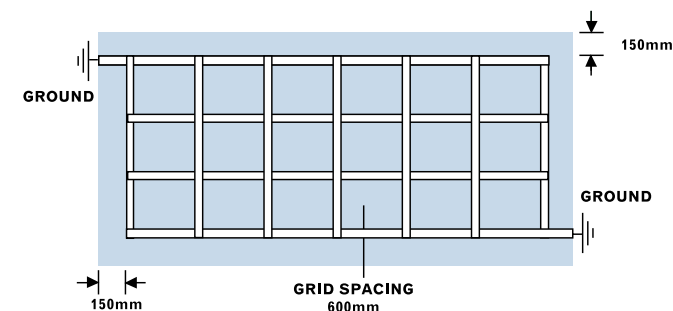

Figure 2 Earth strip layout
- > The strips should be laid to form 600mm square grid across the floor, the perimeter strips being 150mm from the wall (fig. 2).